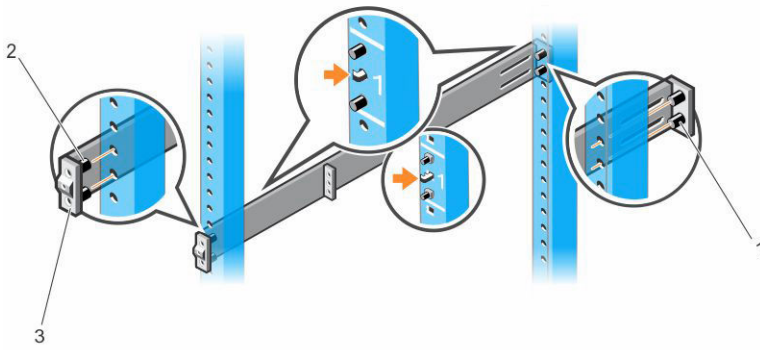

Figure 17. 1U Tool-less Configuration
- 1 With the ReadyRails flange ears facing outward, place one rail between the left and right vertical posts. Align and seat the back flange rail pegs in the back vertical post flange. To see how the pegs appear in both the square and unthreaded round holes, see Figure 17.